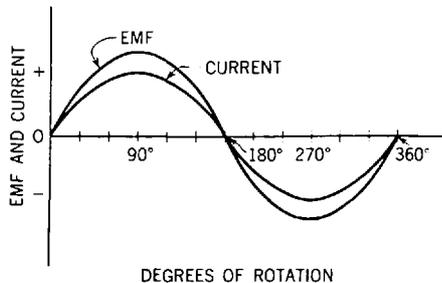

Fig. 32-14. Curves showing the relationship between *emf* and *current* and the *degree of rotation* (in phase).
**Plotting Curves of Current and EMF Together.** Now let us see how the use of graphs helps us to understand electric currents. The electromotive force causes the current to flow. Thus, we should expect that when the alternating electromotive force reaches its maximum in one direction, the alternating current also will reach its maximum in that direction. When the electromotive force drops to zero, the current, too, will drop to zero. We may show this relationship graphically by plotting the alternating electromotive force against degrees of rotation and, on the same two axes, plotting the alternating current against degrees of rotation (Fig. 32-14).
**What Is Meant by Phase?** You will notice in Figure 32-14 that in both curves the electromotive force and current reach their maximum in the same direction at the same time and are likewise at zero at the same time. When the electromotive force and current have this relationship to each other, we say that they are *in phase*.